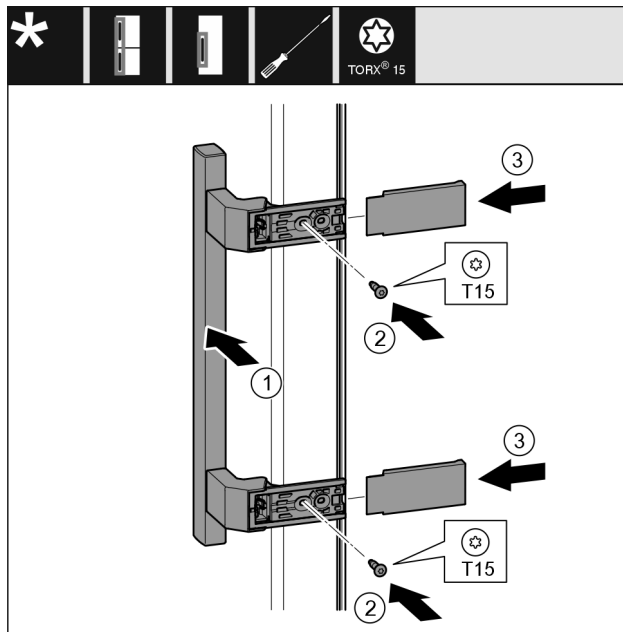

Fig. 30
- Place the handle Fig. 30 (1) on the opposite side.
- Tighten screws Fig. 30 (2) with screwdriver.
- Place the covers Fig. 30 (3) on the side and push them on.